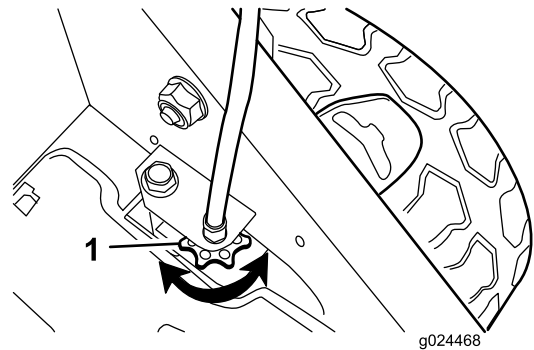

Figure 25
- If the wheels do not spin when you engage the self-propel-drive bar, the traction belt is too loose. Rotate the wheel-drive-control knob (Figure 25) clockwise 1 turn and repeat steps 4 through 6.
- If the wheels spin before you fully engage the self-propel-drive bar, the traction belt is too tight. Rotate the wheel-drive-control knob (Figure 25) counterclockwise 1 turn and repeat steps 4 through 6.